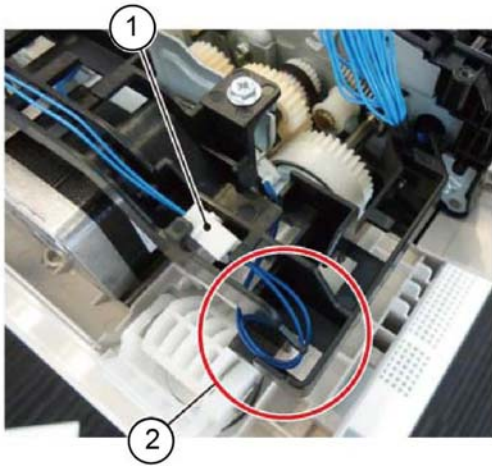

Figure 6 DADF T/A clutch connector
- a. Disconnect the connector (1).
- b. Remove the harness from the harness guide (2).
9. Disconnect the DADF T/A clutch, Figure 6: